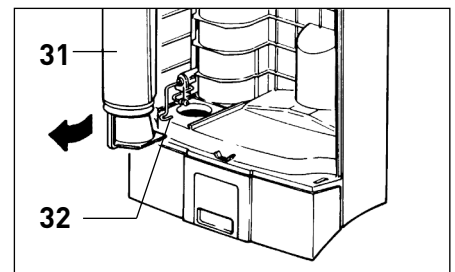

Figure 10
## Changing the Micro-Hygiene Filter - Figure 10
3. Microfilter not properly inserted.	3. Lift safety lever and insert filter with vertical plastic ridge on filter facing you (see pg. 9, figure 10).